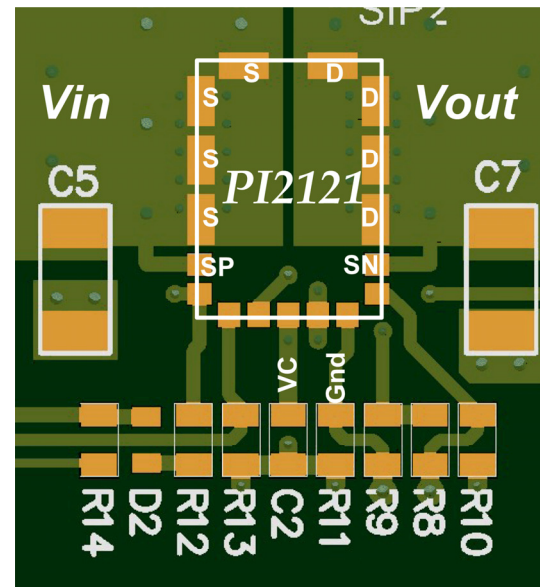

Figure 24: PI2121 layout recommendation
Use the following general guidelines when designing printed circuit boards. An example of the typical land pattern for the PI2121 is shown in Figure 24:
- Connect the SP pin to the S pins and connect the SN pin to D pins as shown in Figure 24.
- The VC bypass capacitor should be located as close as possible to the VC and GND pins. Place the PI2121 and bypass capacitor on the same layer of the board. The VC pin and C_{VC} (shown as C2 in Figure 24).
will produce a high voltage across the MOSFET. If it is not possible to connect the power source and S pins with a very short trace or common point, connect a capacitor (shown as C5 in figure 24), recommended value $1\mu\text{F}$, close to the S pins and return (ground). Also for the same reason use C7 in figure 24 at the output.